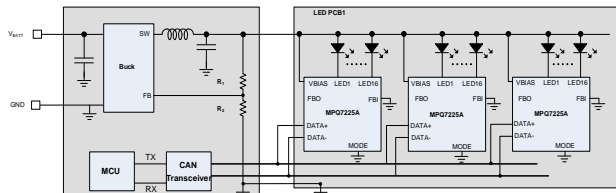

Figure 18: Application Circuit without AFC
The FBI, FBO, and MODE pins are related to AFC. If AFC is not used, float the FBO pin, then connect FBI and MODE to GND (see Figure 18).
If the MPQ7225A and DC/DC converter are on the same board, or there is a connected FBO wire condition, the resistor network can be connected following Figure 18. Then the FB resistors can be estimated with Equation (4):